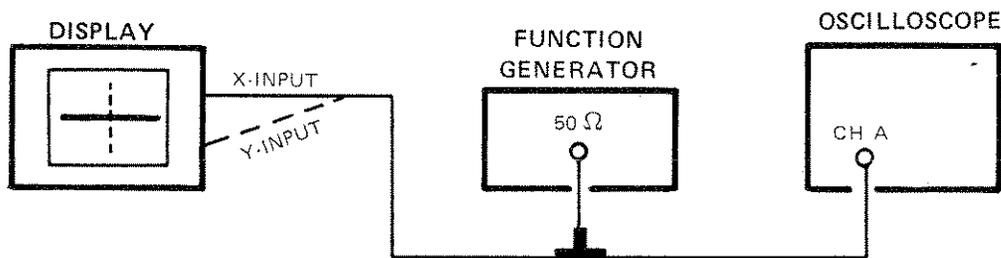

Figure 5-2. Gain Set Adjustment Test Setup
- a. Connect equipment as shown in figure 5-2.